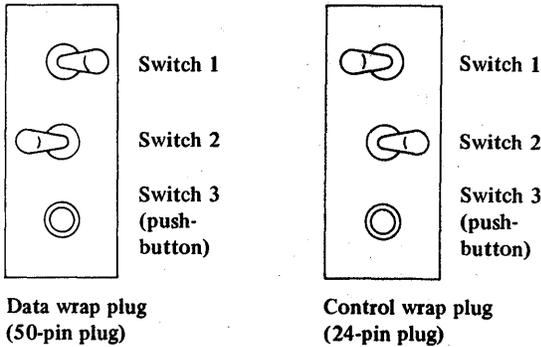

Figure 4-10. Manual protected mode wrap plugs
- Set the toggle switches on the data wrap plug and the control wrap plug as shown in Figure 4-10.
Are all switches positioned as shown in Figure 4-10?